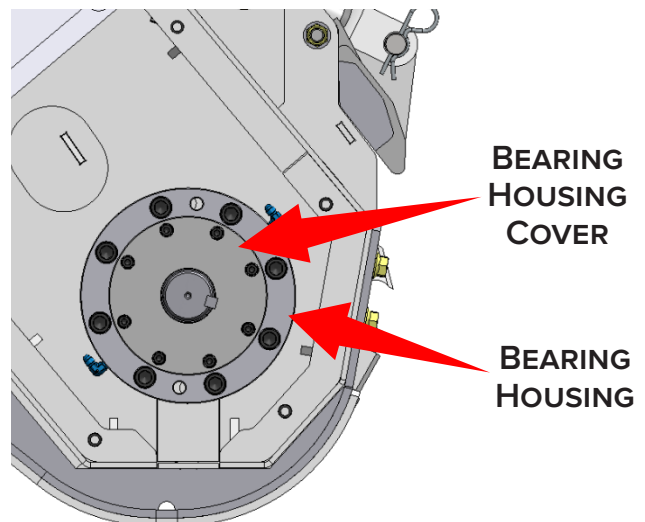

Figure 22
4. Remove the bearing housing cover plate, using a 6 mm Allen key. See Figure 22.